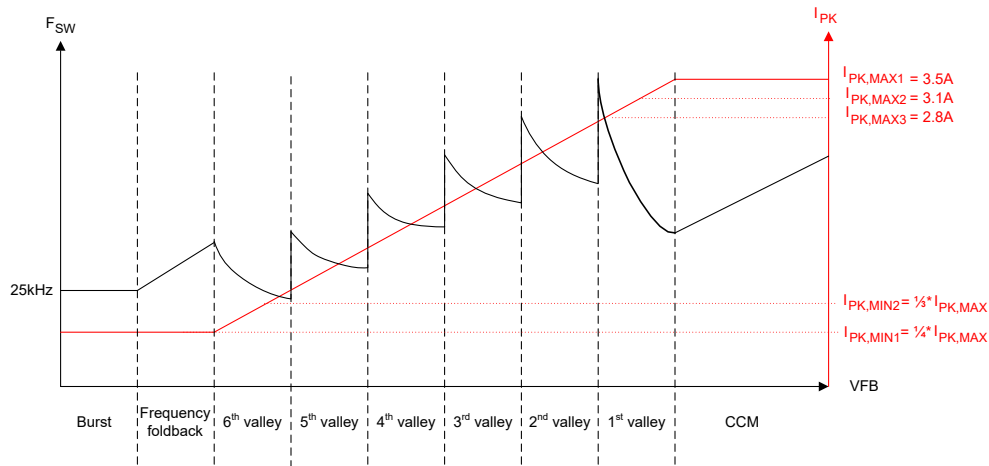
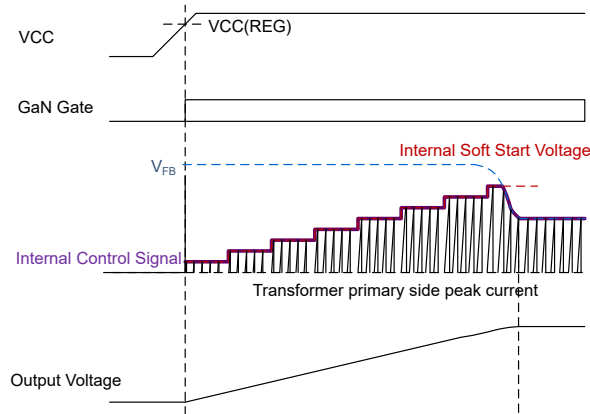

Figure 7-4. UCG2883x/4x Control Law
Figure 7-9. Soft Start Sequence
Connect the feedback (FB) pin to the collector of the optocoupler for output regulation. This pin has an internal 60kΩ pull up resistor for optocoupler bias. The instantaneous voltage on this pin determines the switching frequency, peak current and mode of operation (burst, foldback, valley switching or CCM) as per the control law in Figure 7-4 to deliver the required output power. Connect a 100pF or 220pF capacitor from this pin to ground for high frequency noise filtering.
Hence, in UCG2883x/4x, in every switching cycle, the primary GaN HEMT turns off after reaching the peak current threshold and turns on next at a target valley in magnetizing ring during discontinuous mode (DCM) operation. The instantaneous primary peak current and target valley is determined by the feedback (FB) pin voltage as per the control law of Figure 7-4. Connect the FB pin to the optocoupler collector. The negative feedback loop sets FB pin voltage to the required value to support a certain V_{OUT} and P_{OUT} on the output. The device can operate in one of the four modes of operation: burst, frequency foldback, valley switching or continuous conduction mode, as described later.
In the control law shown in Figure 7-4, the UCG2883x/4x offers flexibility to select a max peak current $I_{PK,MAX}$ to optimize for the switching frequency at rated load and transformer size. For each $I_{PK,MAX}$ setting, a scaling ratio of 1/3rd or 1/4th is available for the minimum peak current $I_{PK,MIN}$. This $I_{PK,MIN}$ value determines the switching frequency and losses in light load conditions when the flyback converter is operating in frequency foldback or burst modes. For all values of $I_{PK,MAX}$ and $I_{PK,MIN}$, the slope of control law peak current vs feedback voltage remains the same, as per Equation 1. Table 7-5 shows the threshold voltages for transition between different modes and between valleys for different peak current settings of Table 7-2.
The UCG2883x/4x is designed to operate with soft switching and primary FET turn-on at a valley to reduce switching losses. The converter operates in valley switching except during peak load transients during which control can transition to CCM mode (if enabled using CFX pin). During valley switching mode, the target valley and peak current threshold are governed by the control law of Figure 7-4 and Equation 1:
As shown in Figure 7-4, once the boundary of 1st valley QR operation is reached with increasing output power, the control clamps I_{PK} to the maximum selected value $I_{PK,MAX}$, and begins to reduce the secondary conduction time T_{OFF} in CCM mode. This reduction in T_{OFF} is proportional to increase in FB pin voltage, until 30% of the QR mode off-time to reach maximum 1.7 \times the QR mode output power delivery capability. Use a primary side magnetizing inductance L_M large enough to not hit the frequency clamp during CCM mode and avoid any subharmonic oscillations which can increase output voltage ripple, depending on application requirements. In CCM mode, the clamping frequency for the switching frequency clamp is doubled to maximize the peak power capability. For long duration output power transients, the converter returns to 1st valley QR mode after expiry of the 10ms CCM timer for 4 switching cycles of QR mode operation and resumes CCM operation. This operation repeats every 10ms, until the power becomes lower so that the CCM operation is no longer needed. The device offers flexibility to enable or disable CCM mode operation with a resistor from the CFX pin to GND as per values in Table 7-4.
When turned on, a flyback converter starts with 0V output voltage. The low voltage can cause the feedback voltage FB to clamp to the maximum value and trigger overload protections. To prevent the clamping from happening, the UCG2883x/4x starts in soft start mode. As Figure 7-9 shows, during this time, an internal FB voltage ramp increases in eight steps from 0V to the maximum value in 4ms. The maximum value of internal FB ramp is equivalent of 80% of the $I_{PK,MAX}$ setting and changes for different resistor settings on the IPS pin. During soft start, the smaller of this internal ramp voltage and actual FB pin voltage is used to determine the device operating point in the control law of Figure 7-4. Once the internal FB ramp voltage reaches the maximum value at the end of 4ms is when control is transferred to FB pin voltage for output regulation. Soft start sequence is executed every time at start up or when recovering from fault (auto-retry or latch) and brown-out conditions. The minimum frequency clamp is changed to 10kHz only during soft start (which is otherwise at 25kHz during normal operation). The 10kHz minimum frequency clamp helps at start-up when valleys are missing and the control law forces turn-on of primary GaN HEMT every 100 μ s from the last turn-on edge (if valleys are missing), to charge the output capacitor.